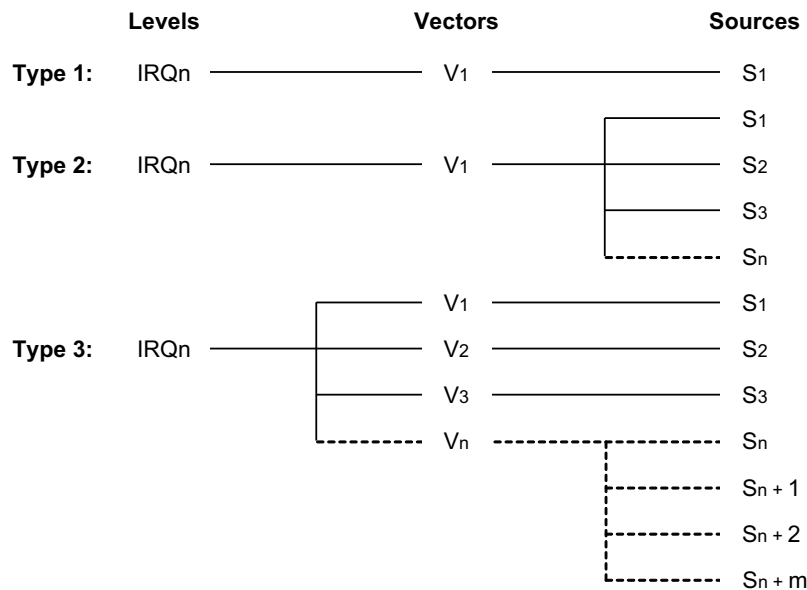

Figure 43. S3F8 Series Interrupt Types
In the S3F8S5A microcontroller, all three interrupt types are implemented; see Figure 43.
► **Note:** In Figure 43, the number of S_n and V_n values is expandable. In the S3F8S5A implementation, interrupt types 1 and 3 are used.